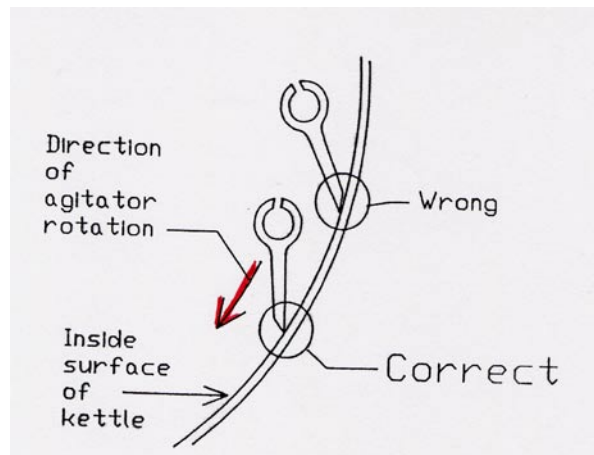

Figure 1.1
3. Carefully examine the primary agitator to verify that each finger is positioned correctly as shown in figure 1.1.
- e. Reverse procedure to assemble. CAUTION - verify that the scraper blade is assembled correctly. (See figure 1.1 on page 7)